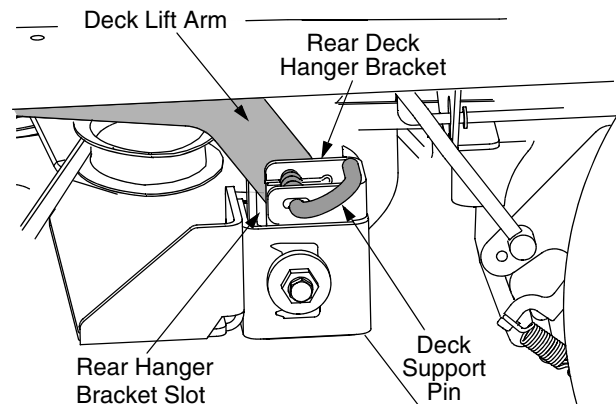

Figure 31
5. Locate the LH and RH deck support pins on each side of the deck. Pull the deck support pins outward and lock in the disengaged position to release the deck from the tractor's LH and RH deck lift arms. See Figure 31.
- Maneuver the deck so that the slots in the two rear deck hanger brackets approximately align with the deck lift arms of the tractor. Refer to Figure 31.
- Pull the deck support pins outward and maneuver the deck as necessary to align the holes in the deck lift arm with the pins. Refer to Figure 31.